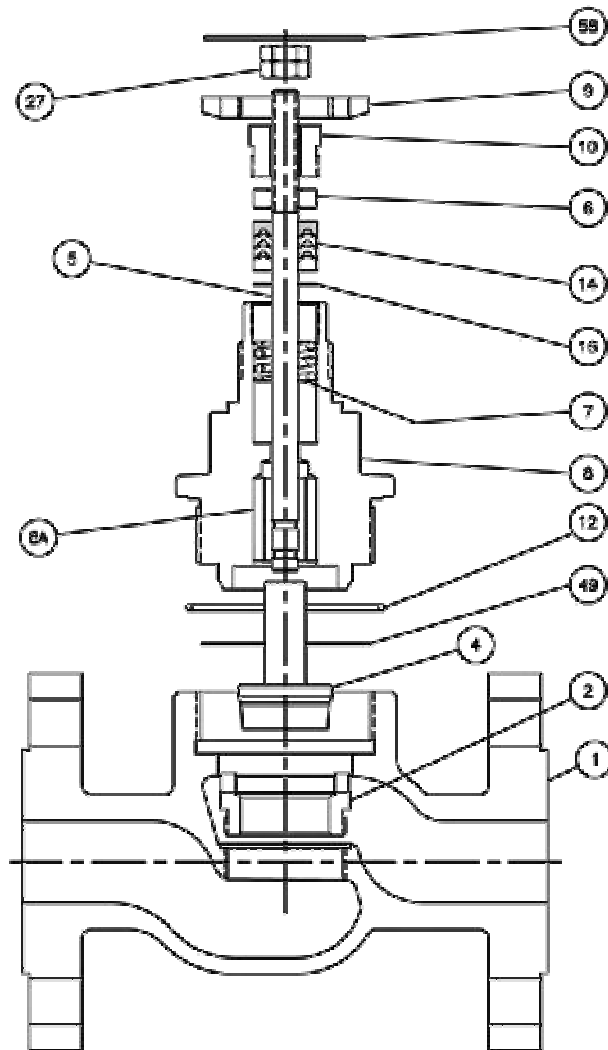

Figure 1. Valve Body Assembly
1. Mount the valve in a vice by clamping the flat end faces of the valve (Fig 1). Caution must be taken not to damage the serrated flange faces.
2. Remove actuator, stem locknuts (27), travel indicator (58) and yoke drive nut (9).
3. Turn the bonnet (8) in a counter-clockwise direction from the valve body (1). Remove o-ring (12) and remove and discard the body gasket (49). A new gasket should be installed each time the valve is disassembled.
5. To remove the seat ring (2), fabricate a special wrench to engage the lugs on the ring. Clean thoroughly and examine for signs of wear.
Refer to Figure 1 and the standard and optional packing constructions illustrated on page 6 to determine the packing that has been pre-installed in your valve.
2. **For Standard Spring Loaded PTFE V-Ring Packing (see Fig 1 & 2):** Carefully insert each piece in exact order shown in the illustration. Turn the packing follower (10) until it shoulders on the bonnet (8). This will compress the packing spring (7) to ensure constant stem sealing throughout packing life.